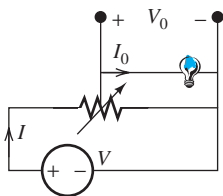

FIGURE P3.78 Circuit for Problem 3.78.
- 3.78** (H) The light bulb shown in Figure P3.78 has a resistance of $R_0 = 2\ \Omega$. The working voltage $V_0 = 4.5\ \text{V}$. $V = 6\ \text{V}$. Find the conditions under which the power efficiency η (defined as the ratio of the power consumed by the bulb and the power provided by the source) is maximum.